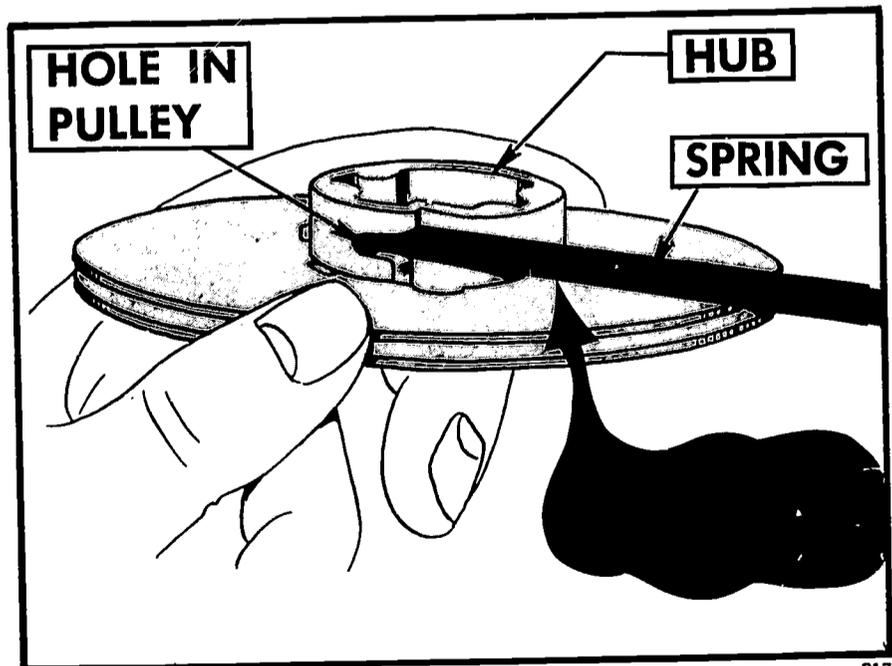

FIGURE 35. Unhook recoil spring from the pulley.
5. Disconnect the recoil spring from the pulley (Figure 35).
8. *Attach new spring to the pulley (Figure 35).*